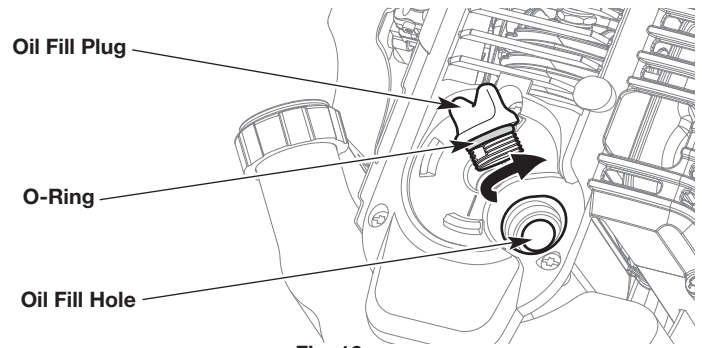

Fig. 16
3. Clean the area around the oil fill plug (Fig. 16) to prevent debris from entering the oil fill hole (Fig. 16).
7. Make sure the O-ring is in place on the oil fill plug (Fig. 16).
1. Clean the area around the oil fill plug (Fig. 16) to prevent debris from entering the oil fill hole.